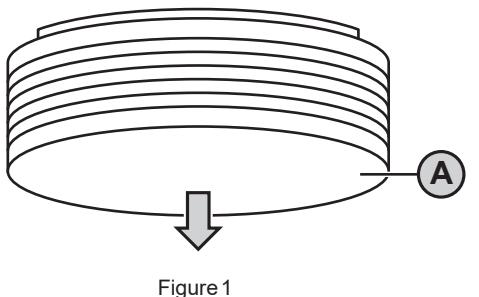

Figure 1
- Remove cover (A) from device (fig. 1).